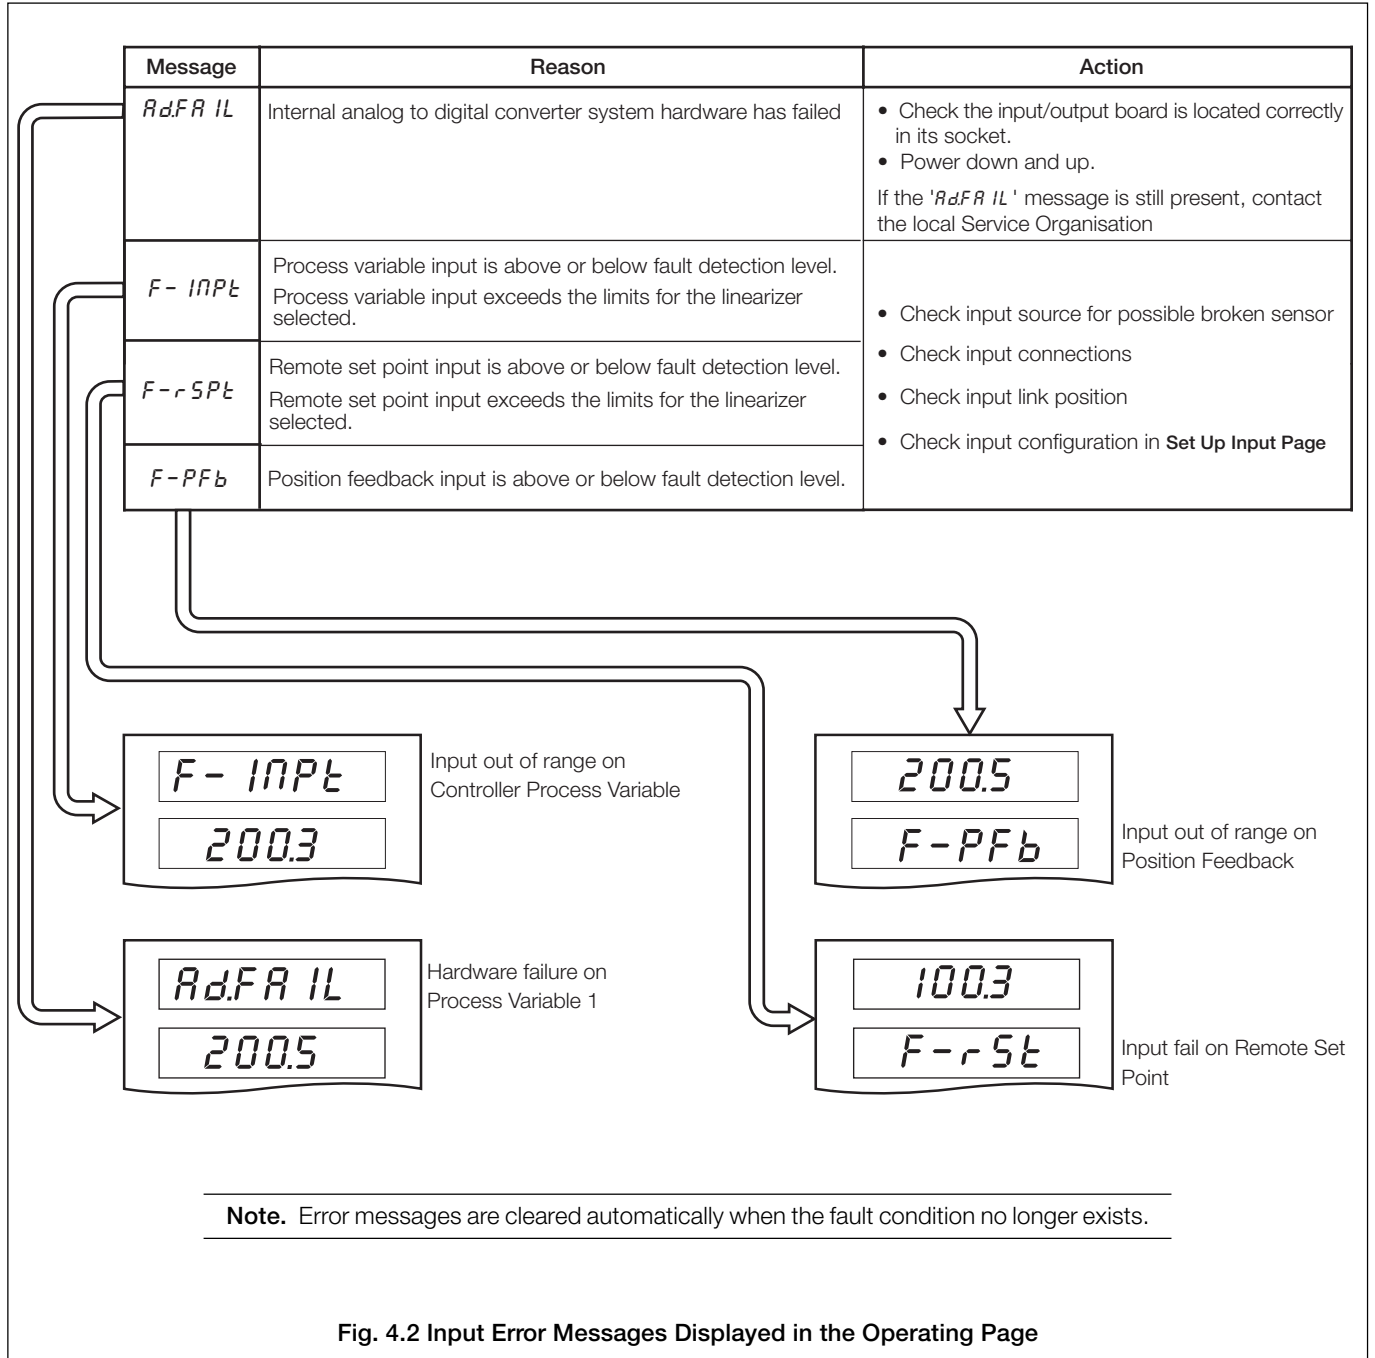

Fig. 4.2 Input Error Messages Displayed in the Operating Page
4.1 Input Error Messages – Fig. 4.2